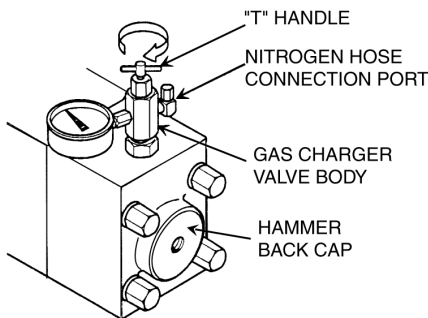

Figure 7. Connecting Gas Charger to Hammer
- b. Remove the gas valve cap located on the hammer back cap and attach gas charger, see Figure 7.
- b. **For disassembly** loosen the bleeder screw on the gas charger very slowly and release the N₂ gas. Watch the pressure gauge until the nitrogen pressure is fully released. (see Figure 7 and 8.)